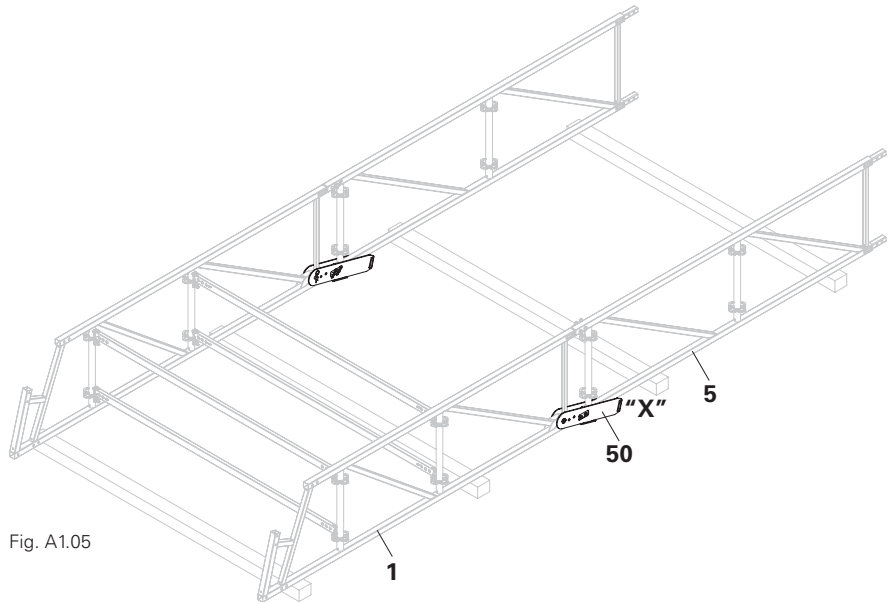

Fig. A1.05
1. Slide the upper and lower chords of the standard element (**5**) onto the pins of the eaves element (**1**). (Fig. A1.05)